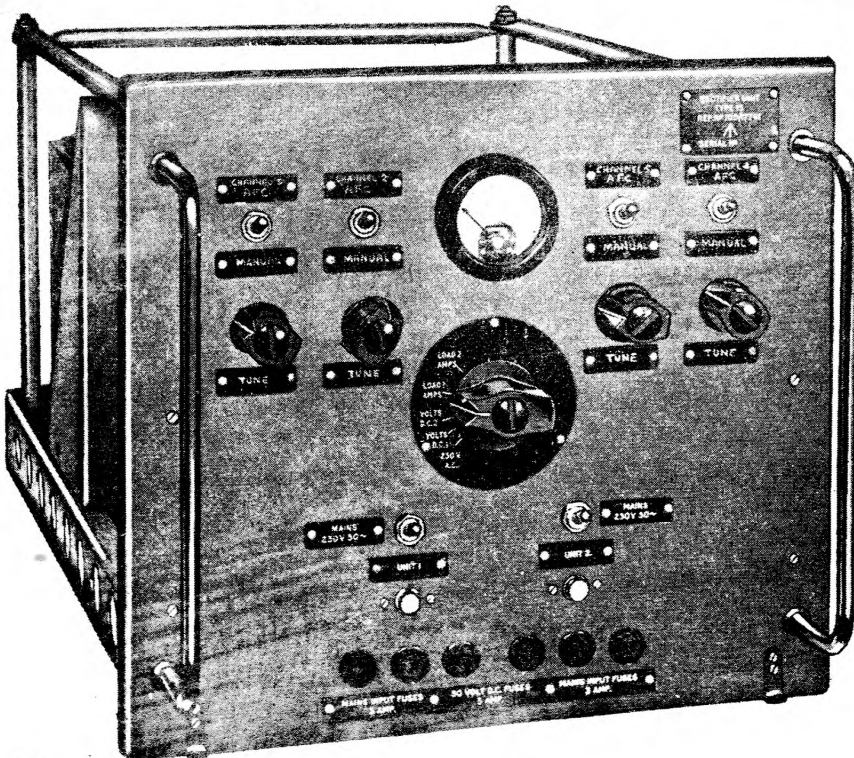
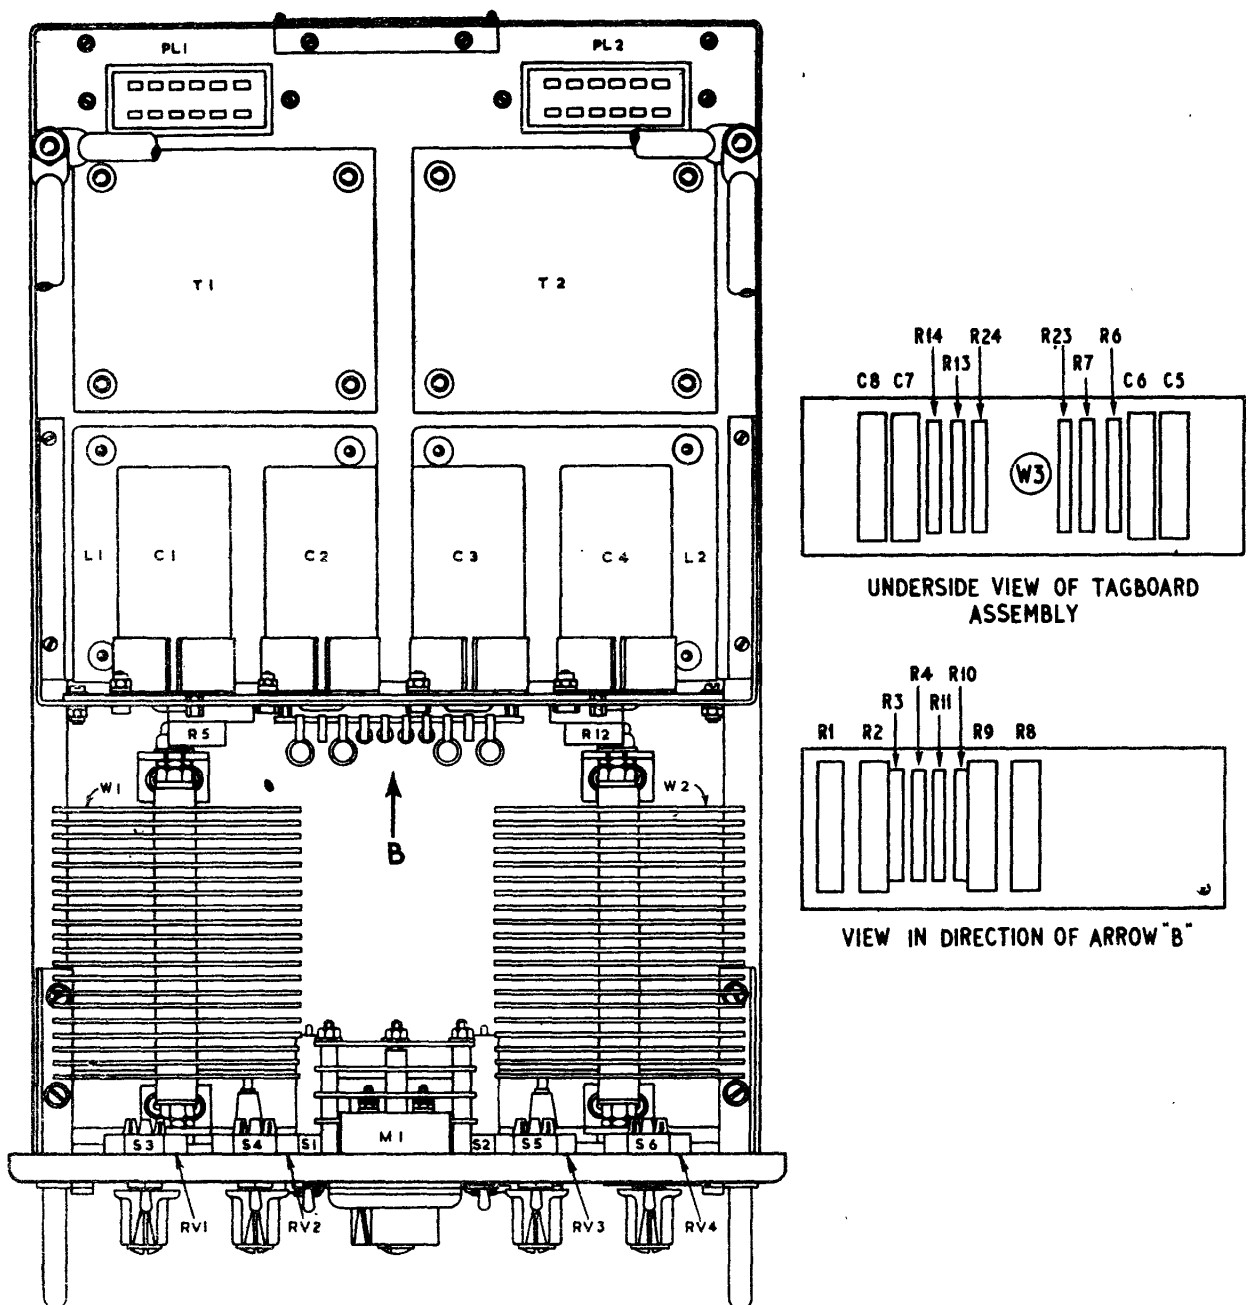
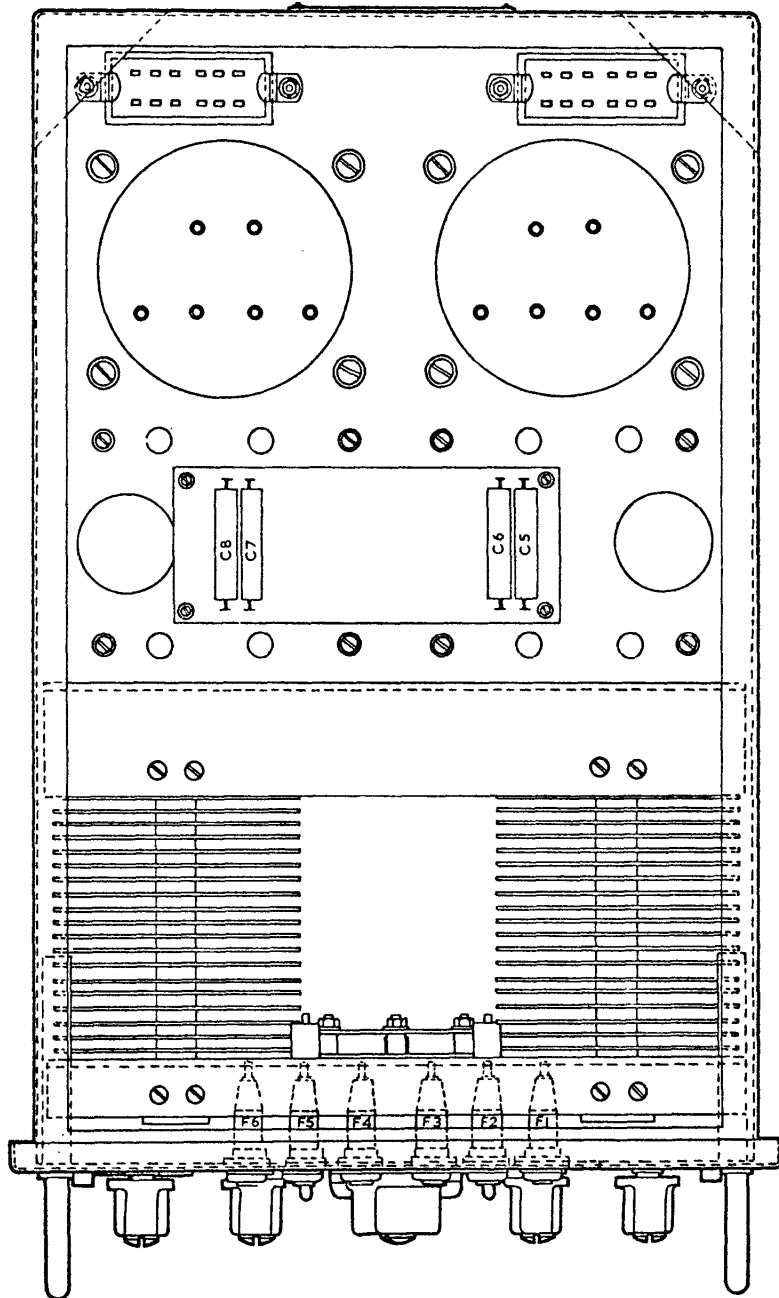

Fig. 1. Rectifier unit Type 15, front panel
Fig. 2. Rectifier unit Type 15, chassis, top deck
Fig. 3. Rectifier unit Type 15, chassis, underside
3. A front panel diagram of the rectifier is shown in fig. 1. Fig. 2 gives a plan view of the chassis and fig. 3 is an under-chassis aspect. A side elevation, from the left-hand, is shown in fig. 4, and a complete circuit diagram is fig. 5.